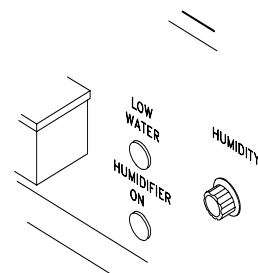

Figure 3
6. Periodically monitor water level by indicator on operator panel (see figure 3).